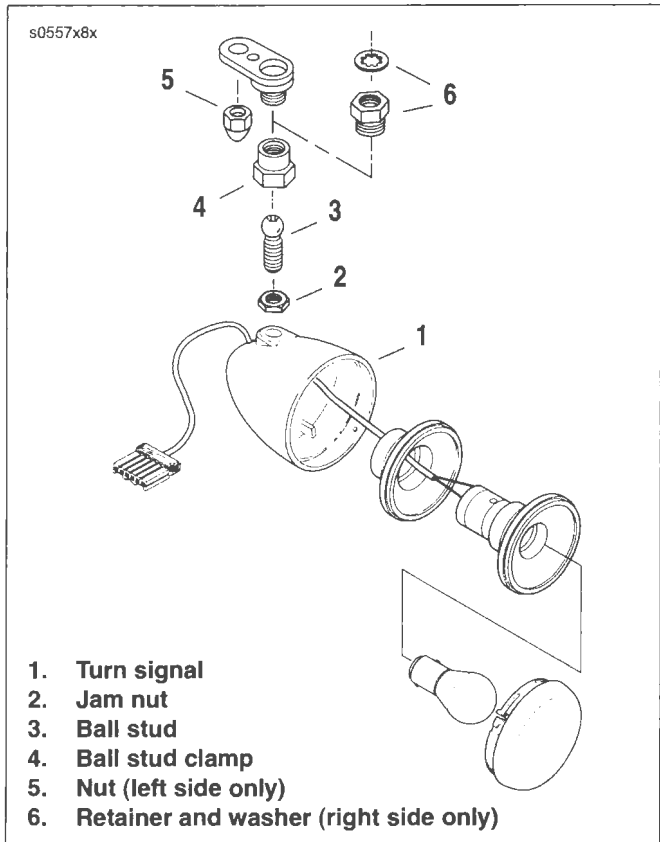

Figure 8-61. Front Turn Signals: FXST, FXSTD, FLSTF
- b. For all models except FXSTB see Figure 8-61. On right side, hold retainer (6) and loosen ball stud clamp (4) to remove turn signal. On left side, remove nut (5) from mirror, loosen jam nut and remove ball stud clamp (4) to detach turn signal.